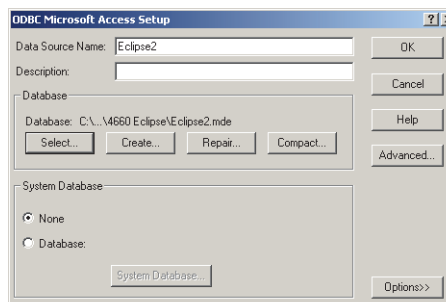

Figure 15.6. ODBC Microsoft Access Setup dialog box
- Select **OK** again after returning to the ODBC Microsoft Access Setup dialog box (Figure 15.6).